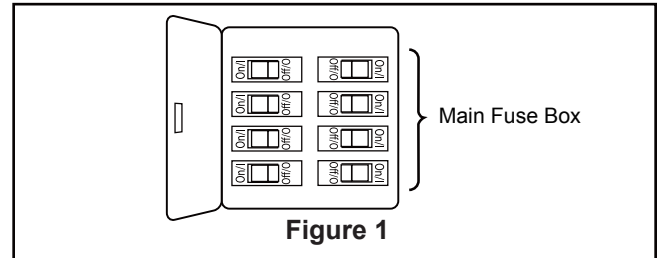
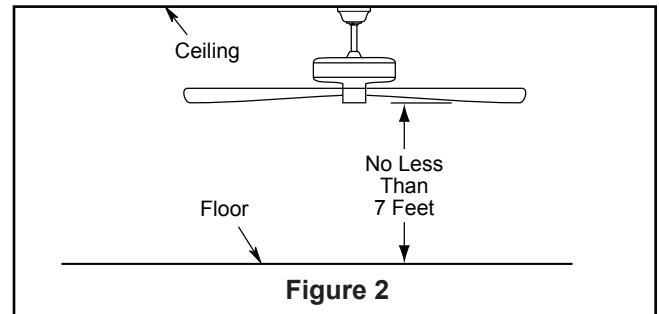
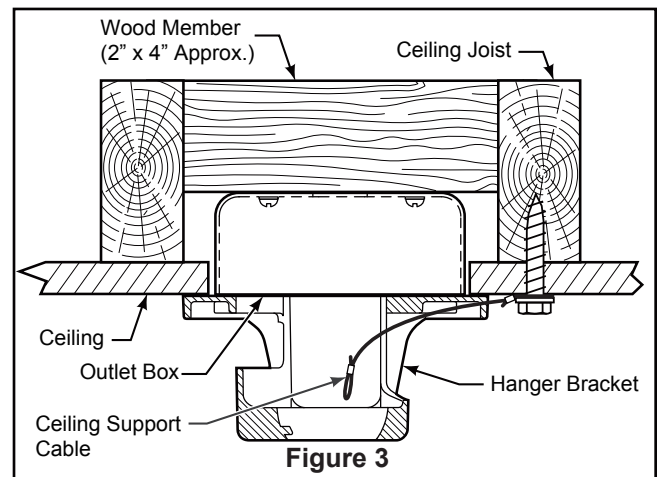

Figure 1
Figure 2
Figure 3
Your new ceiling fan will require a grounded electrical supply line of 120 volts AC, 60 HZ, 15 Amp Circuit. Electrical code requires use of a fan-rated outlet box to support the extra weight and motion associated with a ceiling fan. A fan-rated box will be labeled as such and typically supports up to a 70lb ceiling fan. Fan-Rated Outlet Boxes vary in ratings and design. Ensure the ratings of your ceiling fan outlet box meet the requirements for the ceiling fan being installed. Figure 1, Figure 2 and Figure 3 depicts different structural configurations that may be used for mounting the outlet box.
Low profile box (Figure 1)
Deep box (Figure 2)
Deep box with brace (Figure 3)
2. Prior to assembly, set aside and save the hardware bags packaged with your fan. Remove the hanger ball by loosening the set screw in the hanger ball until the ball falls freely down the downrod. Remove the pin from the downrod, then remove the hanger ball. Retain the pin and hanger ball for reinstallation in Step 7. (Figure 2)
3. Remove the hairpin clip and clevis pin from the bottom of downrod. Retain the pin and clip for reinstallation in Step 5. (Figure 3)
To avoid possible fire or shock, be sure electricity is turned off at the main fuse box before hanging. (Figure 1)
The fan must be hung with at least 7' of clearance from floor to blades. (Figure 2)
1. Securely attach the hanger bracket to the outlet box using the outlet box screws and washers supplied with the outlet box. (Figure 3)
2. Drill a 1/4" pilot hole into the building structure to prevent splitting or cracking with installation of the lag bolt. Using the 3/8" x 2" lag bolt and flat washer, attach safety cable to ceiling joist or wood structural member. The lag bolt will pass through the flat washer, safety cable loop, and into the building structure. (Figure 3)
NOTE: Ceiling support cable cannot be secured to outlet box only, it must be directly secured to ceiling joist or structural member using the 3/8" x 2" lag bolt and flat washer. (Figure 3)
1. To set the code on receiver unit, slide dip switches to the same positions as set on the remote control. (Figure 1)
To avoid possible electrical shock, be sure electricity is turned off at the main fuse box before wiring. (Figure 2)
2. Slide the receiver into the hanger bracket before wiring as shown in figure 3.
1. Assemble canopy by rotating key slot in canopy over shoulder screw in hanger bracket, taking care not to pinch the wires. Tighten shoulder screw. Fully assemble and tighten second shoulder screw that was previously removed. (Figure 1)
2. Securely attach and tighten the canopy screw cover over the shoulder screws in the hanger bracket utilizing the key slot twist-lock feature. (Figure 2)
1. Position blade along the motor, aligning blade holes with holes in the top of the motor assembly flywheel. Make sure the blade is fully seated against the flywheel and install serrated head screws with stainless flat washers from the hardware bag, but don't fully tighten at this time. (Figure 1)
2. Install and securely tighten all screws with stainless flat washers at the underside of the blades, then securely tighten all previously installed screws on top of motor. (Figure 2)
3. Attach the plastic cap assembly to the motor assembly, which is held in place by a magnet. (Figure 3)
- 1. IMPORTANT:** Using a full range dimmer switch (not included) to control fan speed will damage the fan. To reduce the risk of fire or electrical shock, do not use a full range dimmer switch to control the fan speed. (Figure 1)
- 2.** Restore electrical power to the outlet box by turning the electricity on at the main fuse box. (Figure 2)
- 3.** Remove the battery cover from remote control by screwdriver and retain the screw for later. (Figure 3)